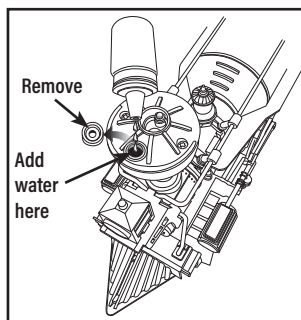

Figure 1. Add water to stack
4. Remove the black plug and begin by squeezing water into the smokestack until the water reaches the surface. Add this black plug back to its appropriate position when your train set is not in use. Refer to figure 1.